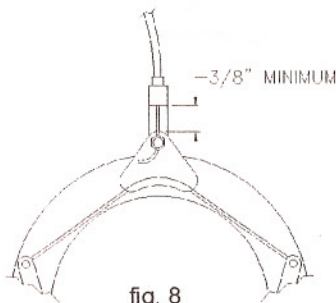

fig. 8
- Install the brakes according to manufacturers instructions and adjust brake pads properly. Make sure that there is at least 3/8" clearance between the top of the cross over cable hanger and the bottom of the brake cable hanger when the brakes are on. (Fig. 8) (Some brakes don't require the use of the cable hanger.)